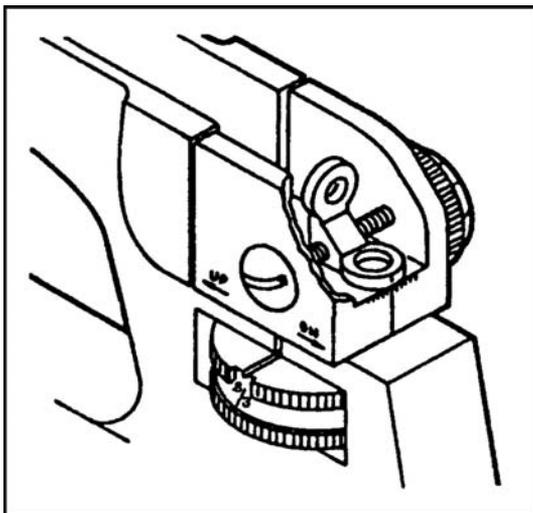

Figure 071-311-2030-1. Unmarked aperture
- a. Is being returned to service after direct support (DS) or general support (GS) maintenance.
2. Select the unmarked, long-range aperture on the rear sight for zeroing (figure 071-311-2030-1).